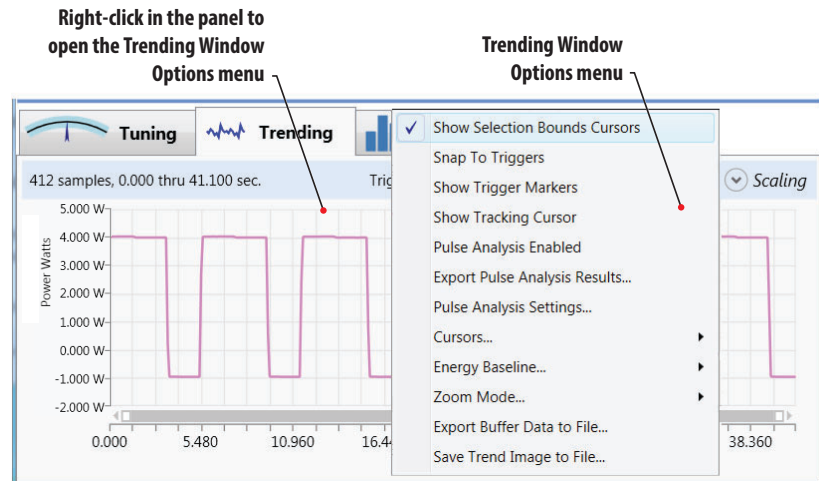

Figure 7-2. Trending Options
1. **[Trending view tab]** Right-click in the Graphics viewing panel to open the Trending Window Options popup menu. Refer to Figure 7-2.
2. From the pop-up menu shown in Figure 7-2, select the desired options to display: